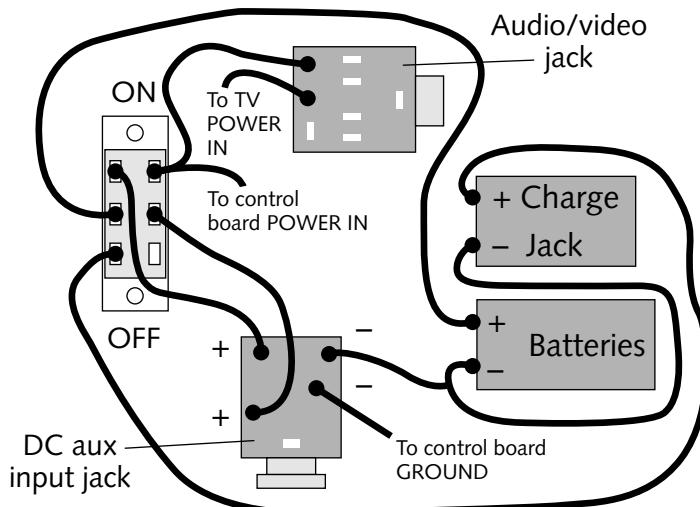

FIGURE 11-26: Power switch and battery connections.
Figure 11-26 shows how to wire the batteries, charge jack, DC AUX input jack, audio/video output jack, and power switch together. Use regular ribbon cable wire for all these connections. The lengths will vary depending on the location of the jacks.
- Check that the power wiring between the batteries, charge jack, power switch, and DC AUX input jack is correct, as instructed in the *Power connections/switches* section and shown in Figure 11-26.